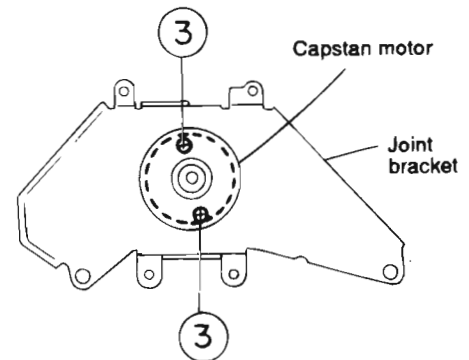

Fig 8
■ Removing the Capstan Motor (See Fig 8)